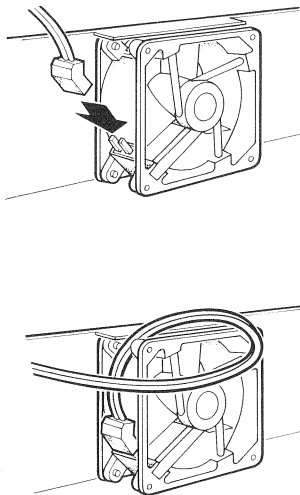

Figure 8-24 Rear Fan Power Cable Installation and Routing
The rear fan power cable is not keyed. Observe the polarity of the connector. The curve of the connector must match the curve of the fan housing (Figure 8-24).
2. Place the power supply in position. Make sure you route the rear fan cable over the top of the rear fan (Figure 8-24).
The rear fan power cable is not keyed. Observe the polarity of the connector. The curve of the connector must match the curve of the fan housing as shown in Figure 8-24.